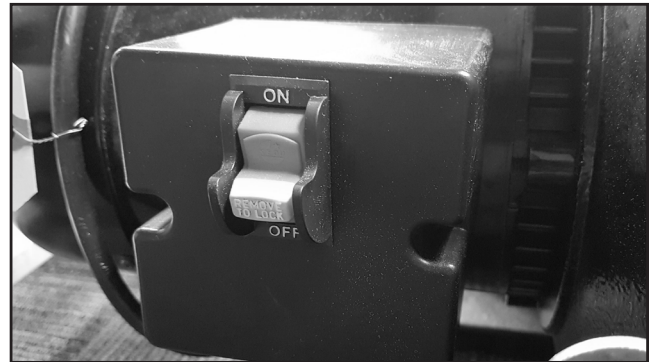

Fig. 8
1. To turn the sander ON, insert the safety key (Fig. 8) into the key slot in the center of the switch. Push the switch to the ON position to start the sander.